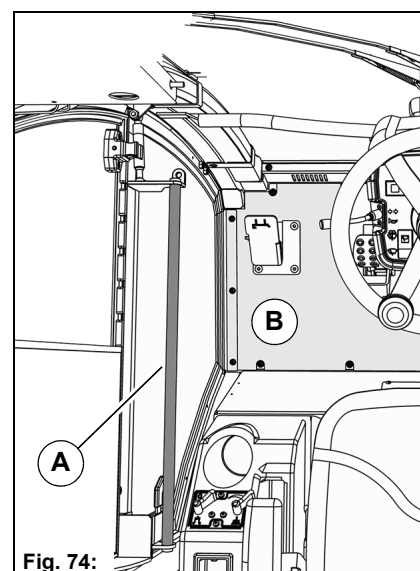

Fig. 74:
1. Open left-hand door and grip and hold the door handle **Fig. 74-A** with your left hand.
2. Put your left foot in the footwell **Fig. 74-B**.